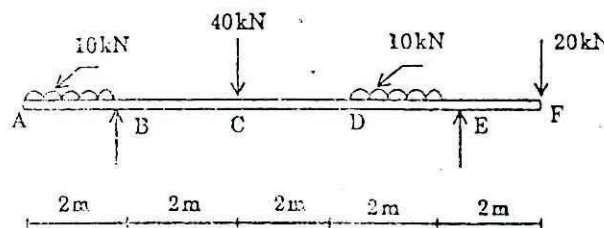

Fig.3
- (b) Draw SFD and BMD for the beam shown in figure 3. Indicate the position and the magnitude of maximum bending moment.